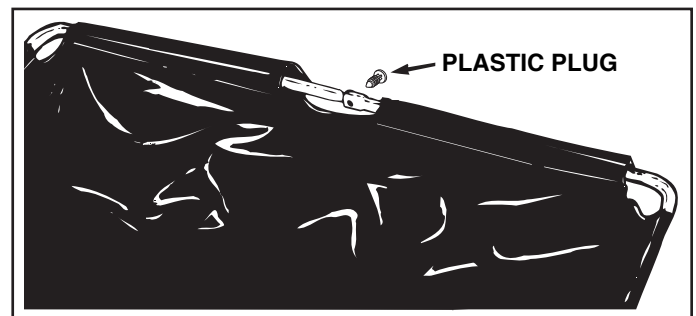

FIGURE 10
- Fasten the upper hopper tubes together using a plastic plug. See figure 10.